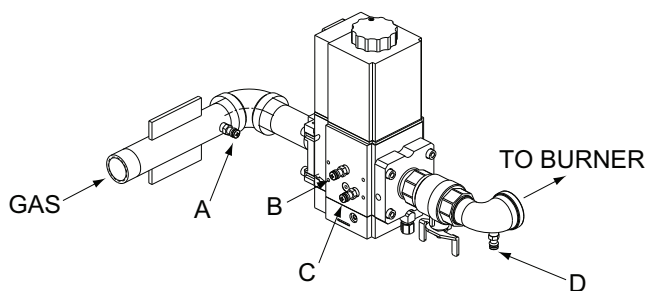

Fig. 47: Gas Pressure Measurement Locations
2. Attach (1) 12" scale manometer to an upstream bleedle valve on the gas supply pipe to the heater (Measure point "A" in Fig. 47).
3. Attach (1) 24" scale manometer to the manifold pressure tap located on the elbow downstream of the valve (Measure point "D" in Fig. 47).
4. Attach (1) 12" scale manometer near the fan-proving switch. Pull black cap from air pressure switch tee and connect the manometer. NOTE: Retain caps for reinstallation later.
- Check manifold gas pressure at the gas valve outlet pressure tap (connection “D” in Fig. 47). This pressure should read per the values in Table V for natural and propane gas.